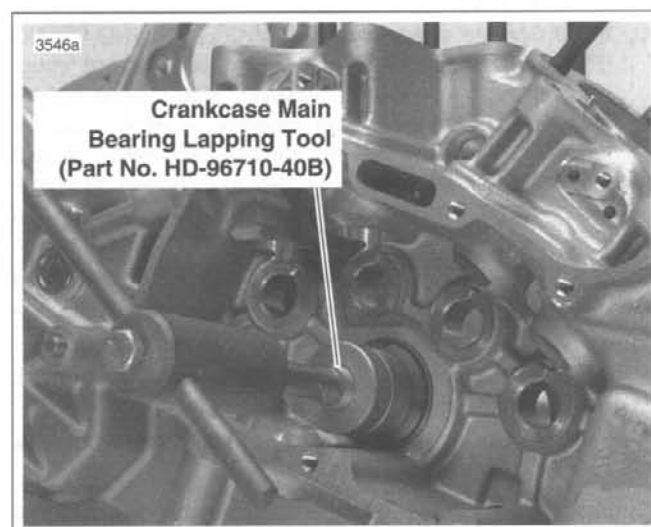

Figure 3-111. Lapping Pinion Shaft Main Bearing
2. See Figure 3-111. Obtain CRANKCASE MAIN BEARING LAPPING TOOL (Part No. HD-96710-40B). Assemble CRANKCASE MAIN BEARING LAP (Part No. HD-96718-87) to lapping handle. Assemble guide sleeve to sprocket shaft bearing bushing. Sleeves, for use with tapered bearing, are assembled to case with bearings and small spacer collar. Finger-tighten the sleeve parts.